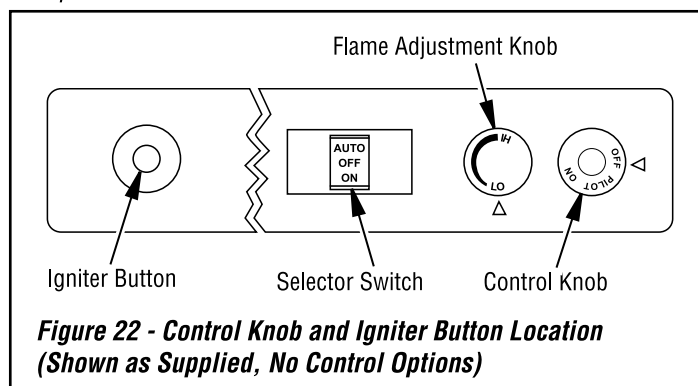

Figure 22 - Control Knob and Igniter Button Location (Shown as Supplied, No Control Options)
5. Wait five (5) minutes to clear out any gas. Then smell for gas, including near the floor. If you smell gas, STOP! Follow "B" in the safety information. If you don't smell gas, go to the next step.
6. Press in and turn control knob counterclockwise  to the PILOT position. Press in control knob for five (5) seconds (see **Figure 22, Page 17**).